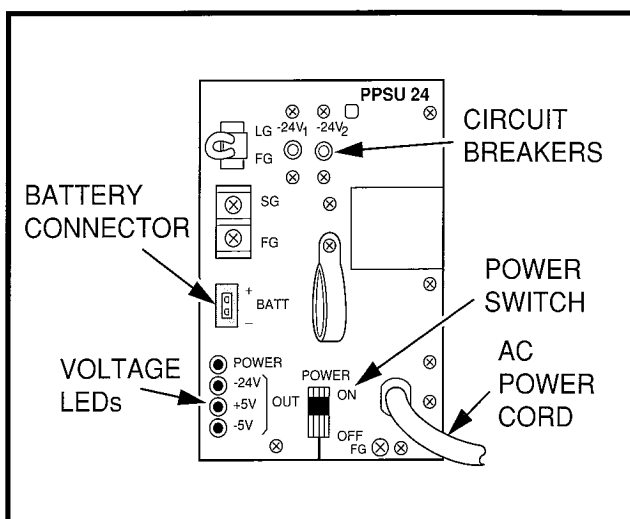
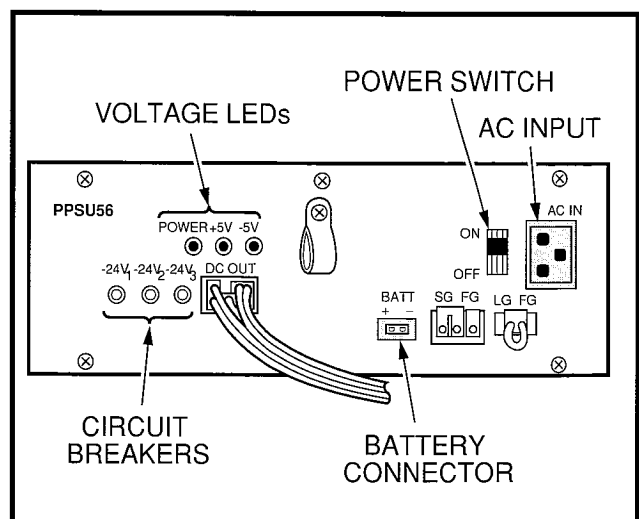
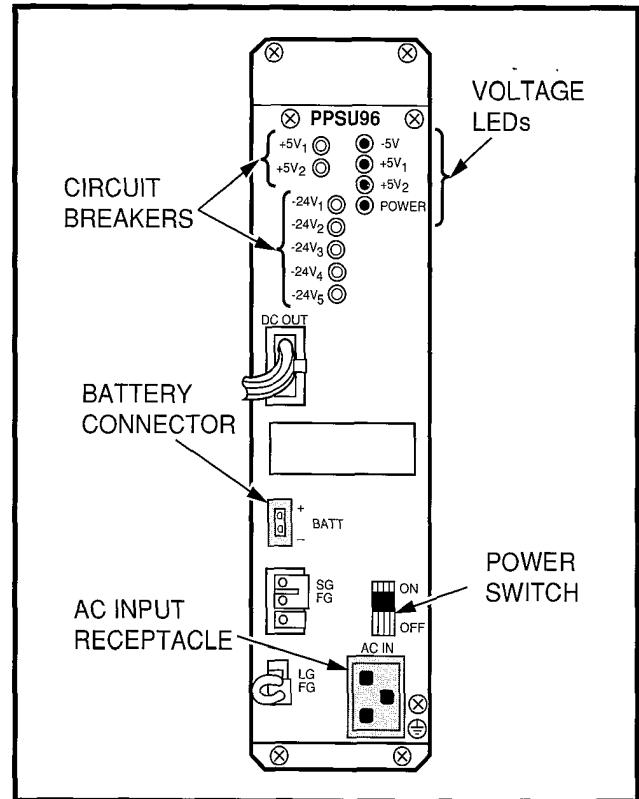

FIGURE 2-5—DK24 POWER SUPPLY FRONT PANEL
FIGURE 2-6—DK56 POWER SUPPLY FRONT PANEL
FIGURE 2-7—DK96 POWER SUPPLY FRONT PANEL
4.00 STRATA DK systems incorporate single-chassis, switching-type power supplies. The power supplies for the three models are functionally identical (except for power capacity), although they differ in appearance due to cabinet sizes and mounting considerations. The DK24 model uses a PPSU24 power supply (Figure 2-5), DK56 uses a PPSU56 (Figure 2-6), and DK96 uses a PPSU96 (Figure 2-7).